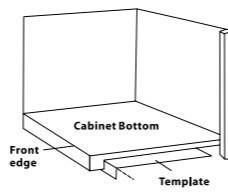

Figure 2
- c) Tape Mounting Template to the underside of the cabinet with the folded portion of the Mounting Template flush up against the cabinet overhang (see Figure 2).